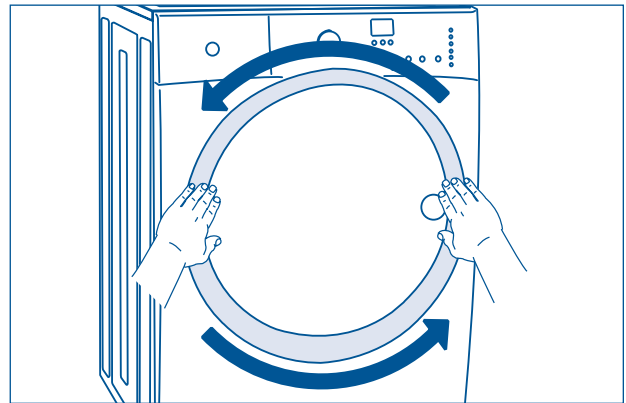

Figure 2-9.
4. Rotate the door trim approximately  $\frac{3}{4}$ " counter-clockwise and pull it away from the front of the door. (See Figure 2-9)